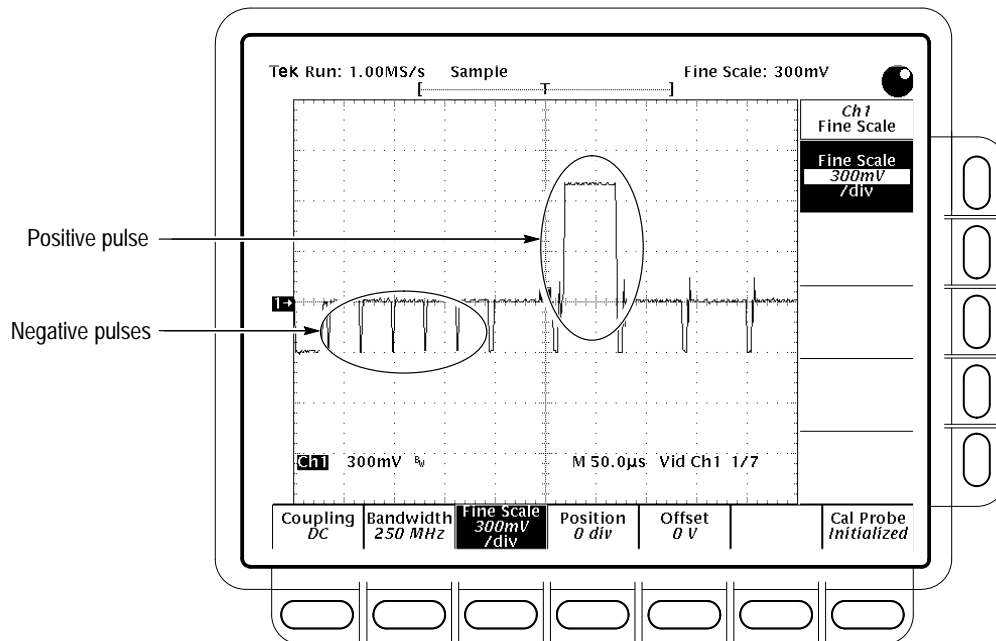

Figure 1–28: Triggered Signal Range Test – 300 mV
- m. CONFIRM that the **TRIG'D** LED stays lit and that the waveform on screen is stable. i.e.; does not move horizontally or vertically. Also, CONFIRM that the waveform on the screen has one positive pulse and a number of negative pulses. See Figure 1–28.